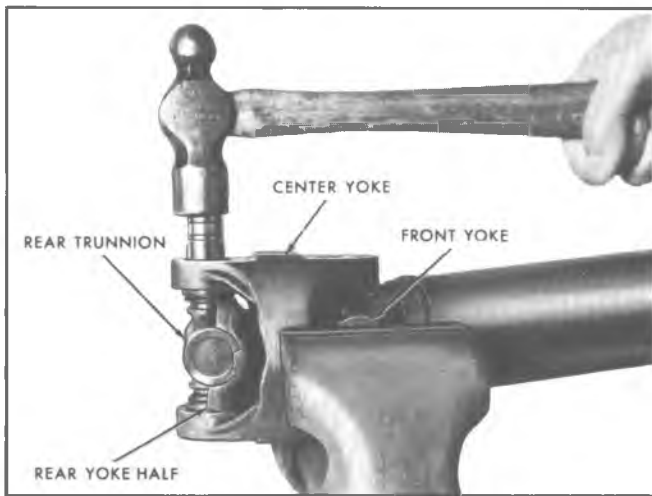

Fig. 30—Driving Out Bearing Cups
3. Place propeller shaft in vice as shown in figure 30. Drive one rear trunnion bearing cap from center yoke as shown in figure 30 until it protrudes approximately 3/8".